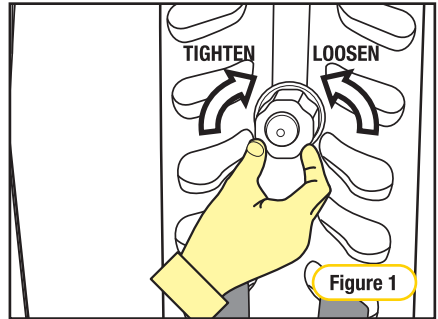

Figure 1
Step 1: Undo the adjustment nut which is located at the back of the restraint, raise the headrest out of the way (refer Figure 1 & 2).